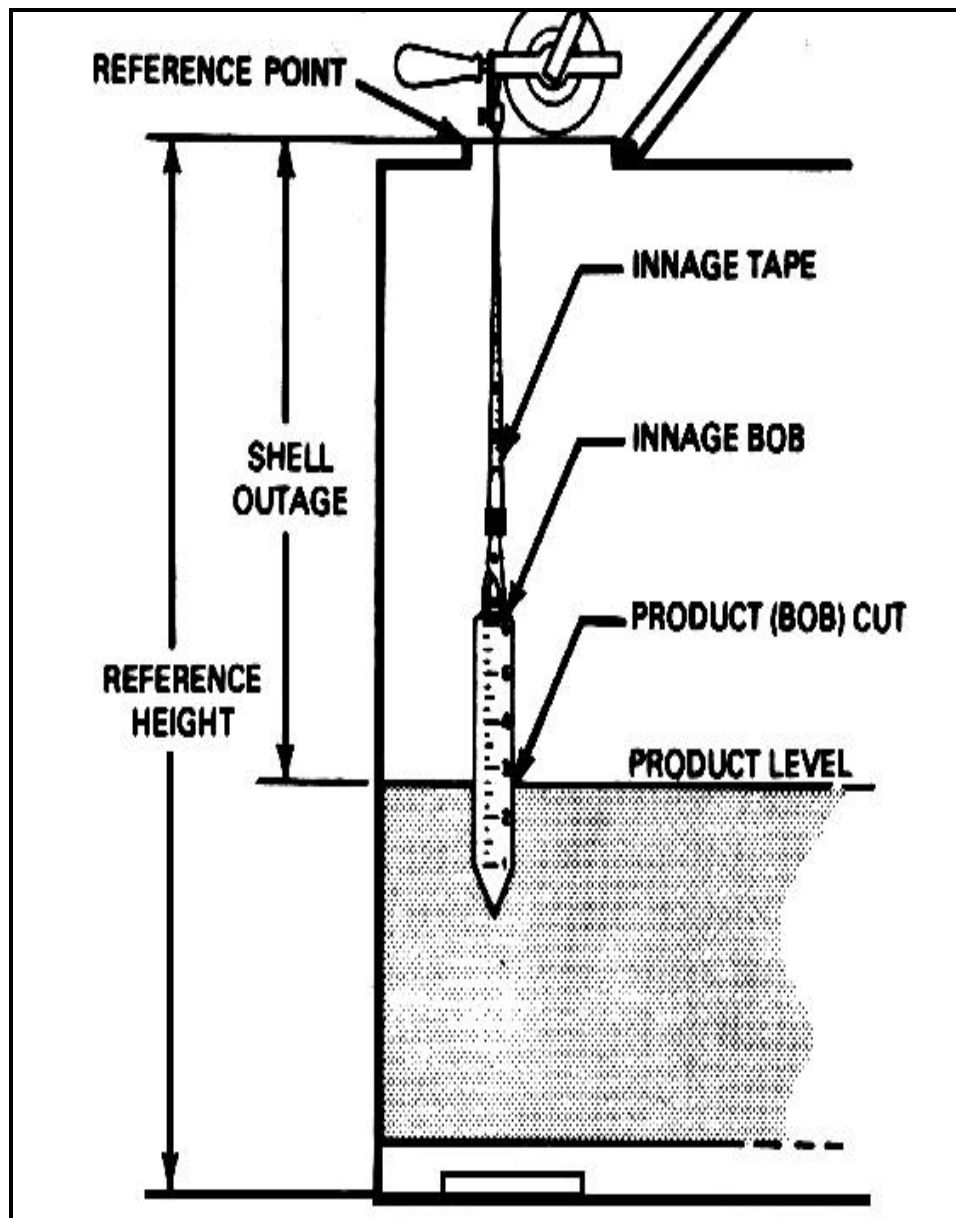

Figure 3-16. Taking an outage reading using an innage tape and bob
- Outage gage using innage tape and bob. To get an outage gage or ullage using the innage tape, and bob, refer to Figure 3-16, page 3-16, and follow the steps below.